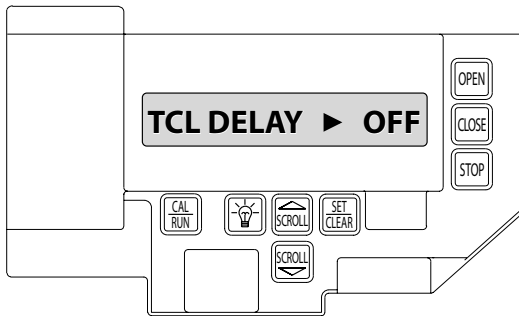

Fig. 6
- 2) Press SCROLL (up or down) until display reads "TCL DELAY >OFF" Fig. 6